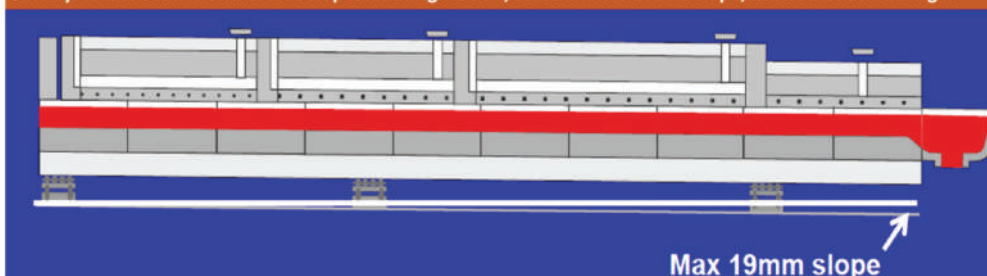

Figure 4.11
- Sloping the Forehearth:** PSR recommends 19mm sloping of Forehearths, based on their experience. However, it can vary depending upon design. Too much sloping can lead to glass overflowing the channel sides when the draw is lower. Adjustable sloping system is provided in all FH designs to change the glass levels as per production requirement. However, it should be noted that, frequent adjustments can disturb the channel joints and FH life can be severely impacted refer to Figure 4.11.
2.5.1 Heating / combustion system: Following Figure 4.11 shows the heating burners and cooling arrangements in Forehearth.